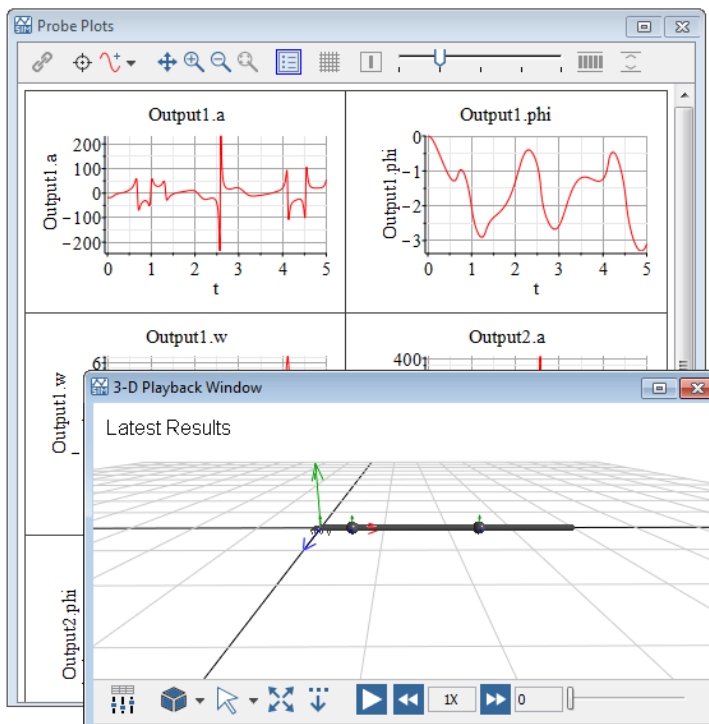

Figure 4.5: Simulation Graphs
2. Click **Run Simulation** (▶) in the **Main Toolbar**. The Analysis window opens with the Simulation Results tab selected. The the 3-D Playback Window and the Probe Plots are in the Simulation Results tab. See **Figure 4.5**.